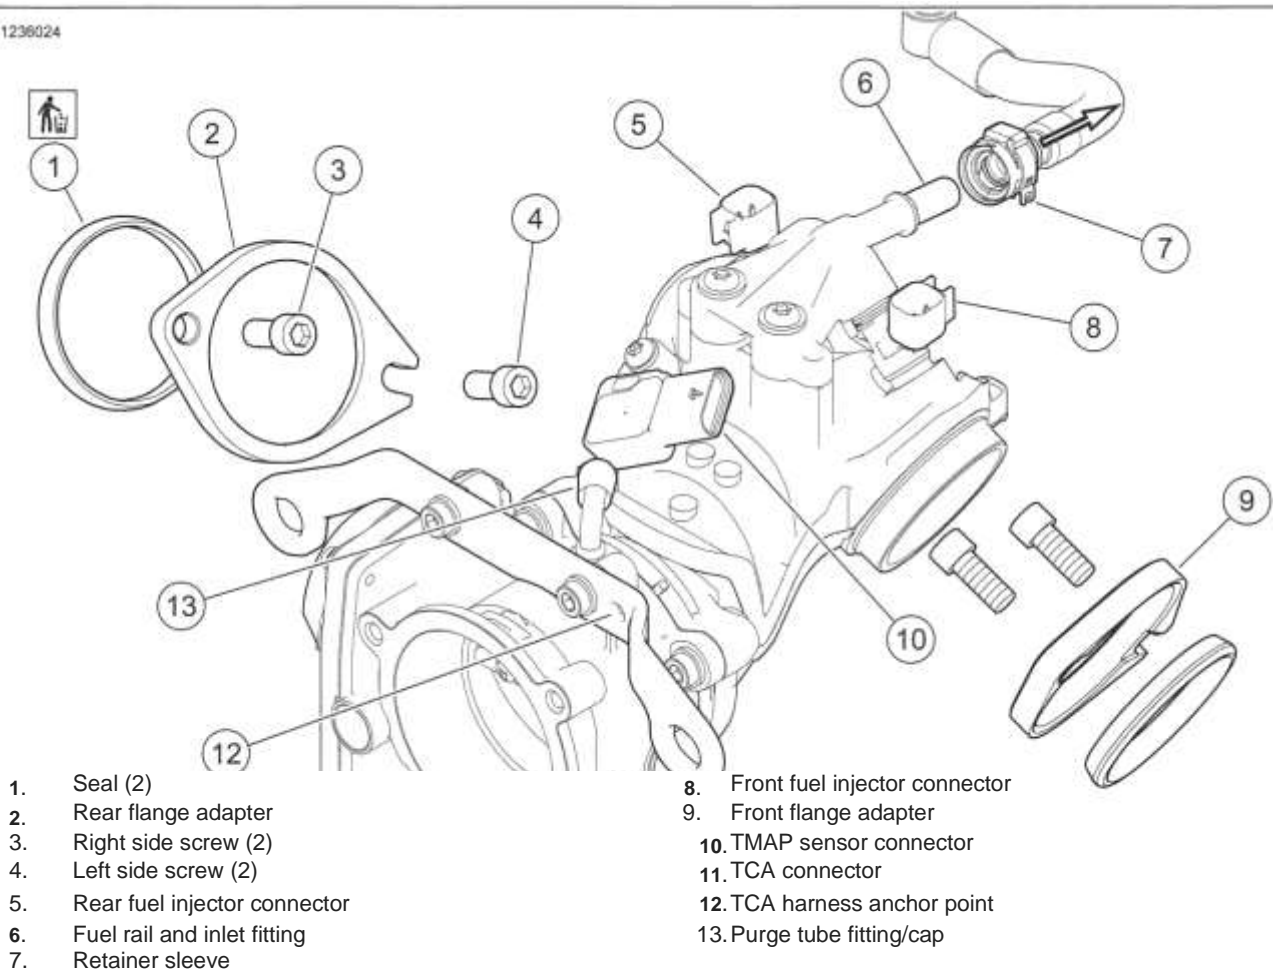

Figure 6-32. Induction Module Assembly
1. See Figure 6-32. **California models:** Pull purge line from
- d. Disconnect TCA connector (11). Release harness from anchor point (12).
- a. See Figure 6-32. Remove right side screws (3).
- b. Remove left side screws (4).
4. Discard seals (1). Remove flange adapters (2, 9).
1. See Figure 6-32 Connect fuel line to induction module.
8. See Figure 6-32 Make connections.
- a. Rear fuel injector connector (5).
- b. Front fuel injector connector (8).
- c. TMAP sensor connector (10).
- d. TCA connector (11).
- e. Fasten TCA harness to anchor point (12) with new anchored cable strap.
- f. California Emissions Models: Connect purge tube to fitting (13).